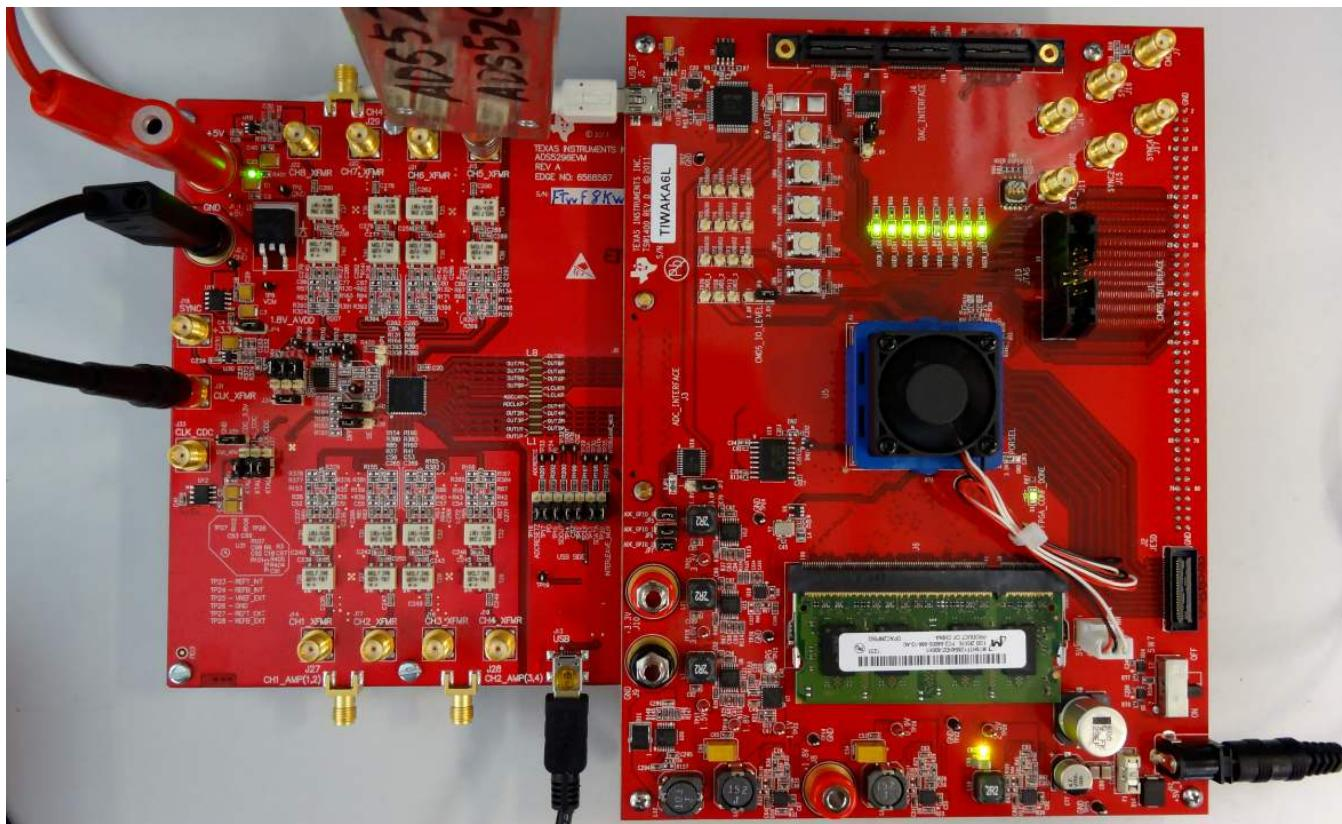
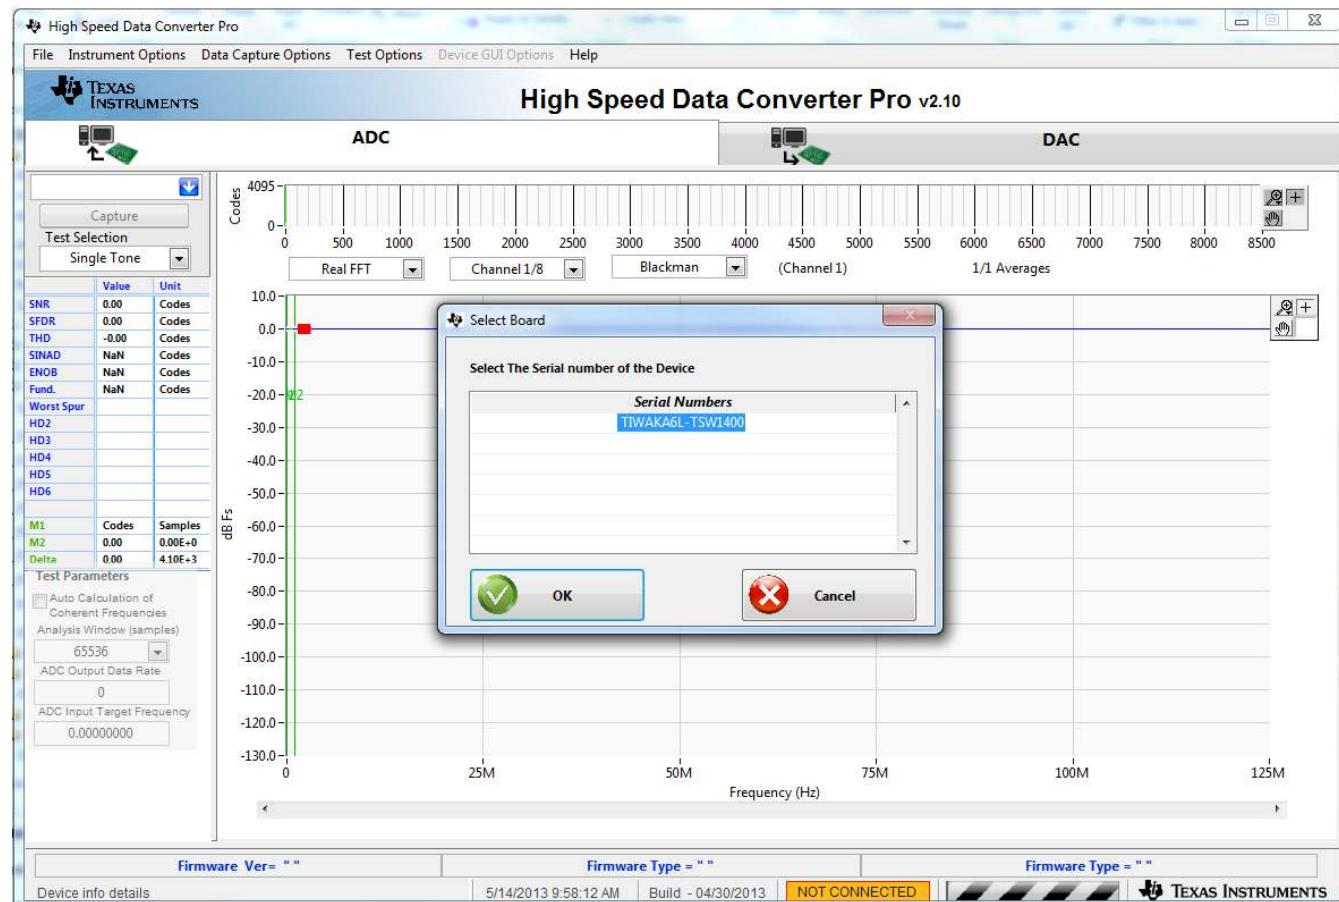

Figure 18. TSW1400 and ADS5296 Setup
Figure 22. TSW1400 GUI Setup (a)
The connections shown in Figure 18 should be made for proper hardware setup (*Note: Testing the LVDS interface between the ADS5296 EVM and the TSW1400 EVM can be performed using a RAMP function generated within the ADS5296 device in lieu of the signal source listed in item 7 below. Also, an on-board 80-MHz crystal oscillator (XTAL) can provide the ADC sampling clock in lieu of the signal source listed in item 6 below. This configuration is only recommended for testing the RAMP function as low phase noise filtered signal sources must be provided to both the ADC clock input and the ADC analog inputs for measuring device performance.*)
1. With the setup outlined in Figure 18 established, launch the *High Speed Data Converter Pro* GUI. The GUI should automatically detect the serial number of the TSW1400 EVM, connected as shown in Figure 22. Click on OK.